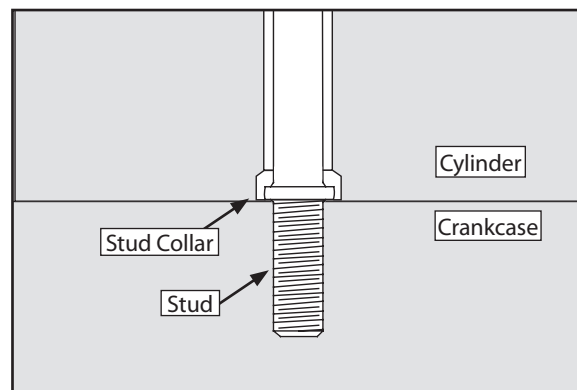

Figure 4
- C- To correct fit of early Sidewinder® cylinder on late stud, perform following steps. See **Figure 4**.